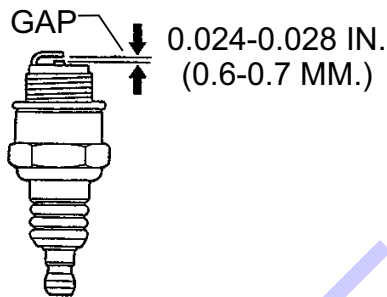

Figure 22. Spark Plug Gap
- Remove and clean the spark plug (Figure 22), then adjust the spark gap to 0.024 ~0.028 inch (0.6~0.7 mm). This unit has electronic ignition, which requires no adjustments.